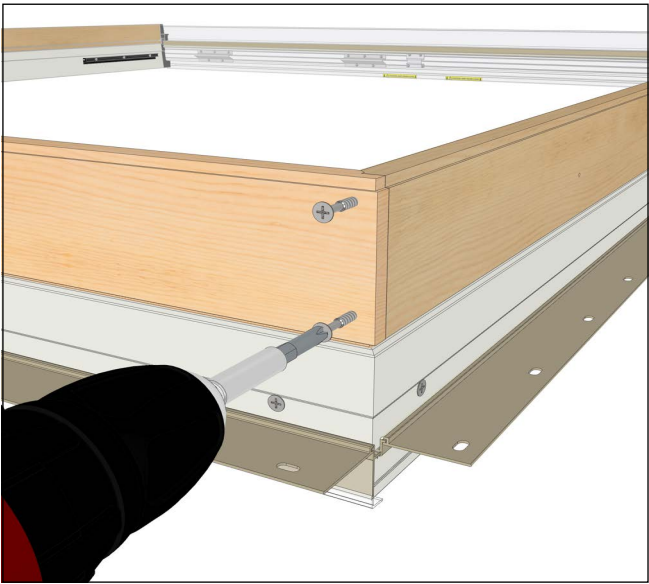

Figure 3
3. Head jamb liner is pre-drilled, fasten with provided screws. See Figure 3.